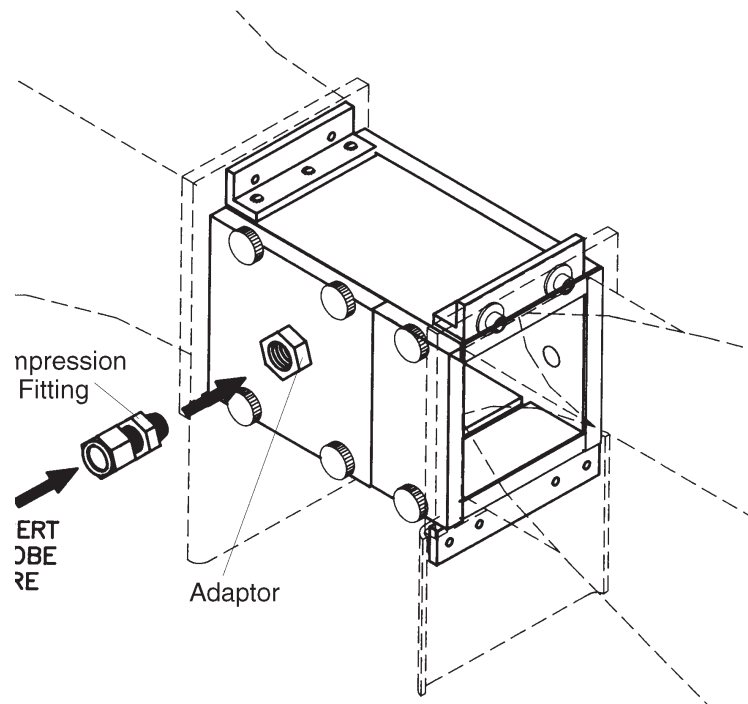

Figure 9: Probe Placement
Step 4: Using the compressing fittings provided, mount the probe to be calibrated in the wind tunnel. Refer to Figure 9. Some probes have directional air flow for upstream and downstream sides. Make sure the probe is installed without any leaks.